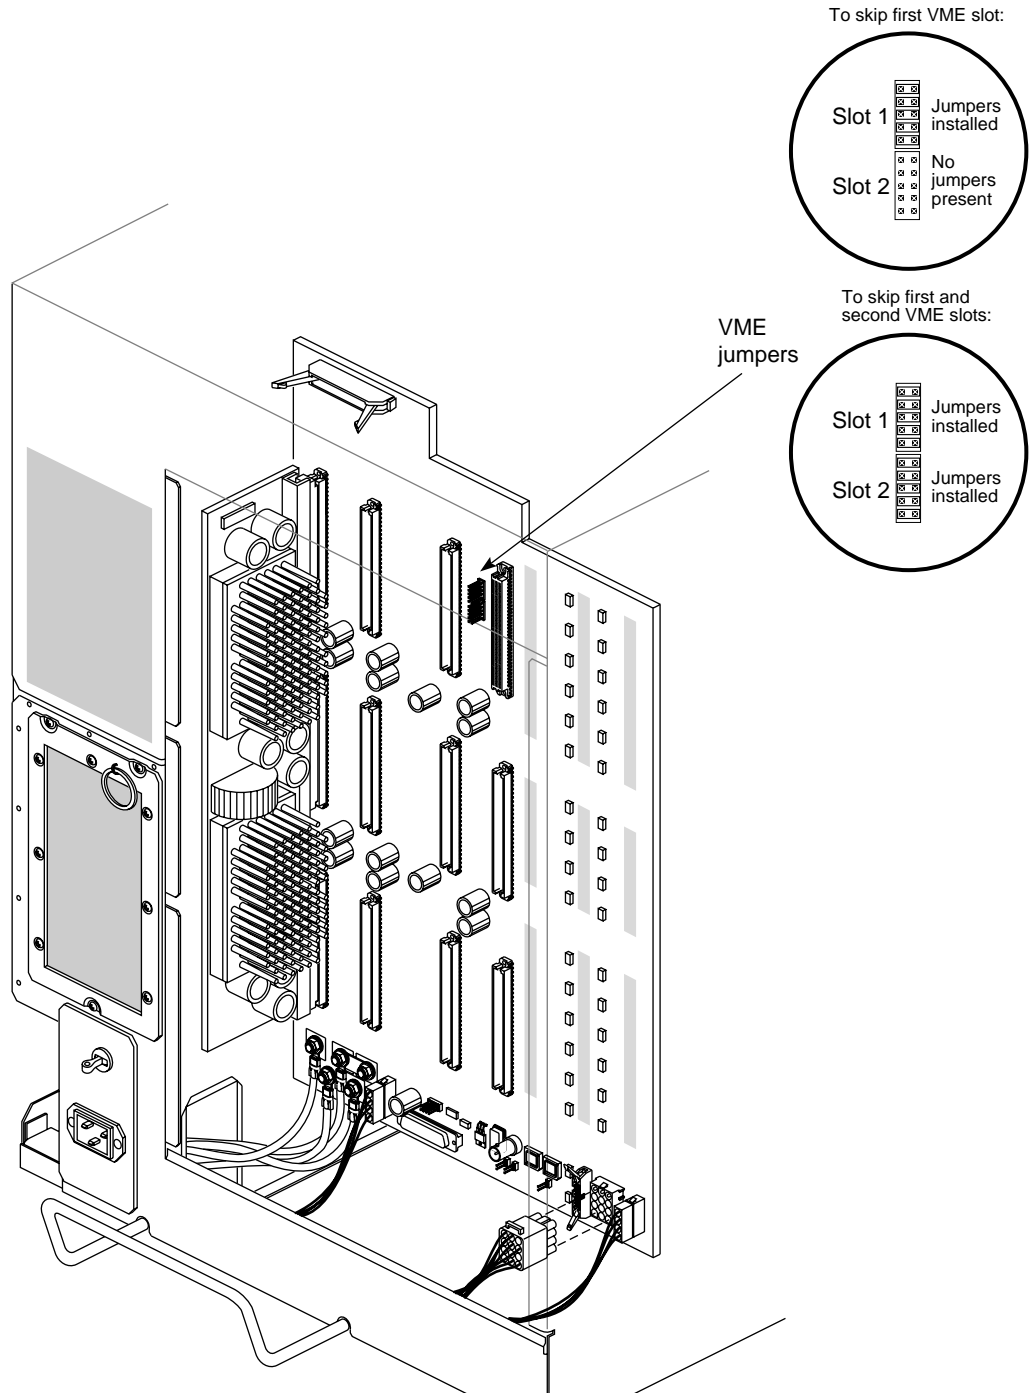

Figure 2-13 Jumpering the Onyx Deskside Backplane
- If you are skipping the first VME slot (that is, slot 5 in an Onyx or slot 7 in a CHALLENGE™ system) to use the next VME slot, place five jumpers in the jumper bank designated as slot 1 (see Figure 2-13).
Figure 2-13 shows placement of the jumpers.